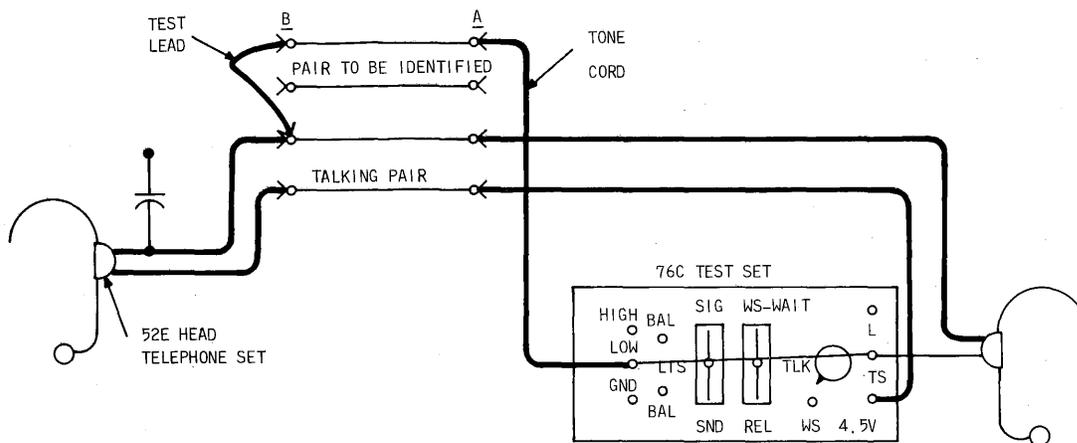

Fig. 3—Probing the Pairs Until One With Tone Is Found
- (1) At A, with the keys in the LIS and TLK positions, connect the sending cord to one side of a pair and listen for one that is not busy; then operate the key from LIS to SIG and then to SND position.
- (2) At B, using the test lead from the 0.1 μ F condenser, probe the pairs until the one with tone is found (Fig. 3).
- (3) After the pair has been located, move the key at A from SND to LIS. At B, attach